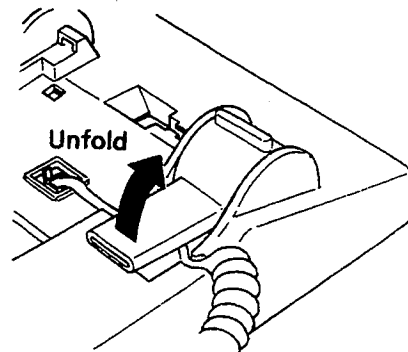

Figure 4-7 Unfolding the Legs on the Tilt Stand
- b. Unfold the legs until they lock. Refer to Figure 4-7 - Unfolding the Legs on the Tilt Stand.